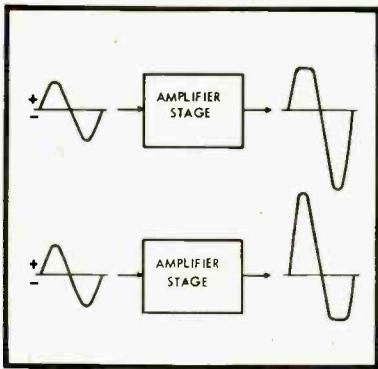

Fig. 8-3. Two types of vacuum-tube distortion. (A) Distortion due to saturation
When the signal on the grid changes in the positive direction the current through the tube and through the associated output circuit is increased. The more positive the instantaneous value of the input signal the greater the current. Now there is obviously a limit to the amount that the current can increase. After the current has been driven to this limit (*saturation*), no further increase of positive input voltage will increase the current flow. This condition is illustrated in (A) of Fig. 8-3, in which the input voltage covers too great a range, in its positive peak, for the current to follow accurately. Further, the picture is not in simple black-or-white, where the tube is either saturated or not. Before complete saturation is reached the changes in current flow begin to lag the changes in voltage, so that distortion of a less graphically obvious nature is introduced.
amount that the current flow can be reduced to is zero (*cut-off*), and if the input signal continues to go more negative after cut-off has been reached, the value of current flow in the tube is helpless to follow. This is illustrated in (B) of Fig. 8-3. Here, again, distortion of a less drastic nature begins to introduce itself before the actual cut-off point is reached.